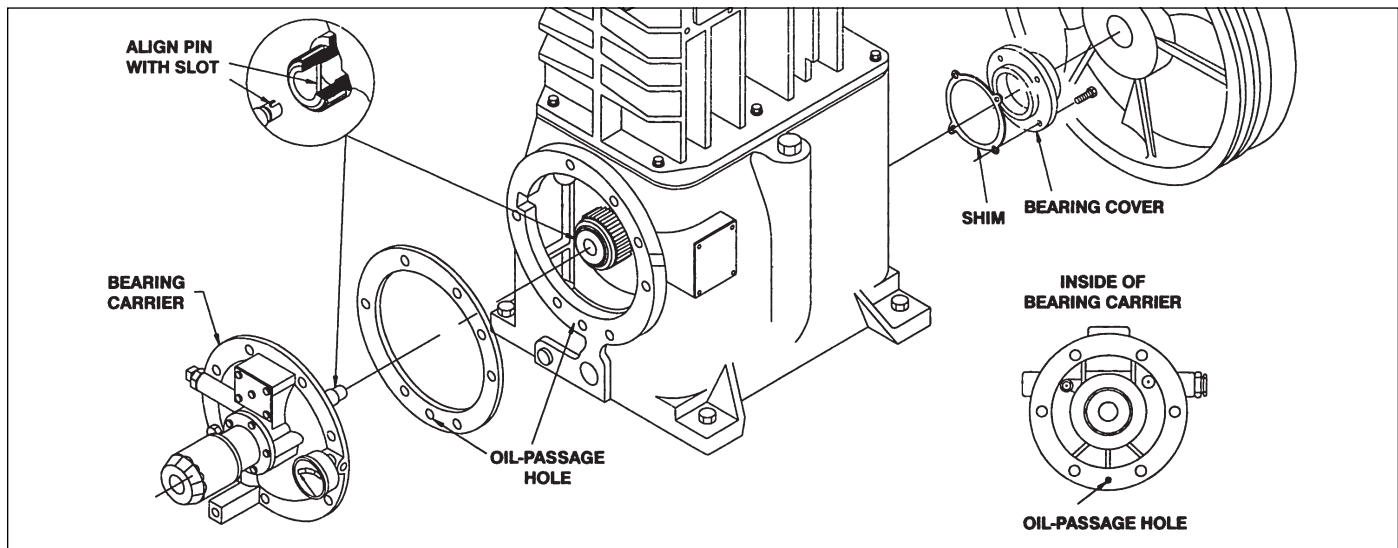

Figure 4.7: Crankcase bearing replacement
2. Press the new bearings into position and reassemble the crankshaft and bearing carrier to the crankcase. When reinstalling the bearing carrier, make sure the oil pump shaft slot is aligned with the pin in the crankshaft. Make sure to install the bearing carrier gasket so the oil passage hole is not blocked (see figure 4.7).